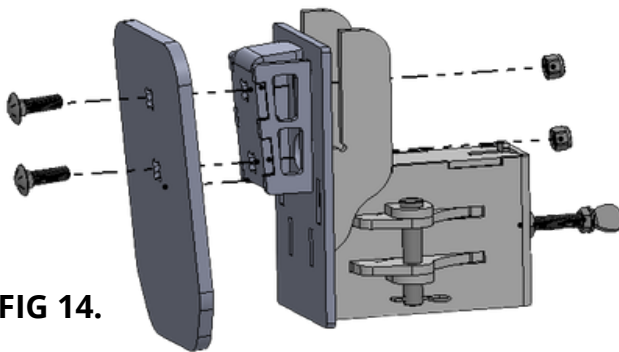

FIG 14.
1. Assemble Stand Protector Plate, to Silhouette Mounting Bracket with 3/8" x 1-1/4" Carriage Bolts and 3/8" Nylon Nuts, as shown in Fig. 14. (2 pcs)